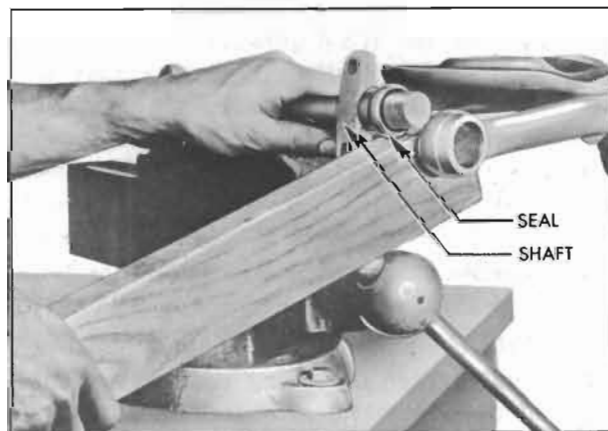

Figure 7-13—Springing Arm Over End of Shaft
5. Insert one end of shaft with the seal in place in one control arm end and force opposite end of shaft into the other control arm end. A piece of wood approximately $11\frac{1}{4}$ "x $2\frac{1}{2}$ "x 24 " long can be used as a pry. See figure 7-13.